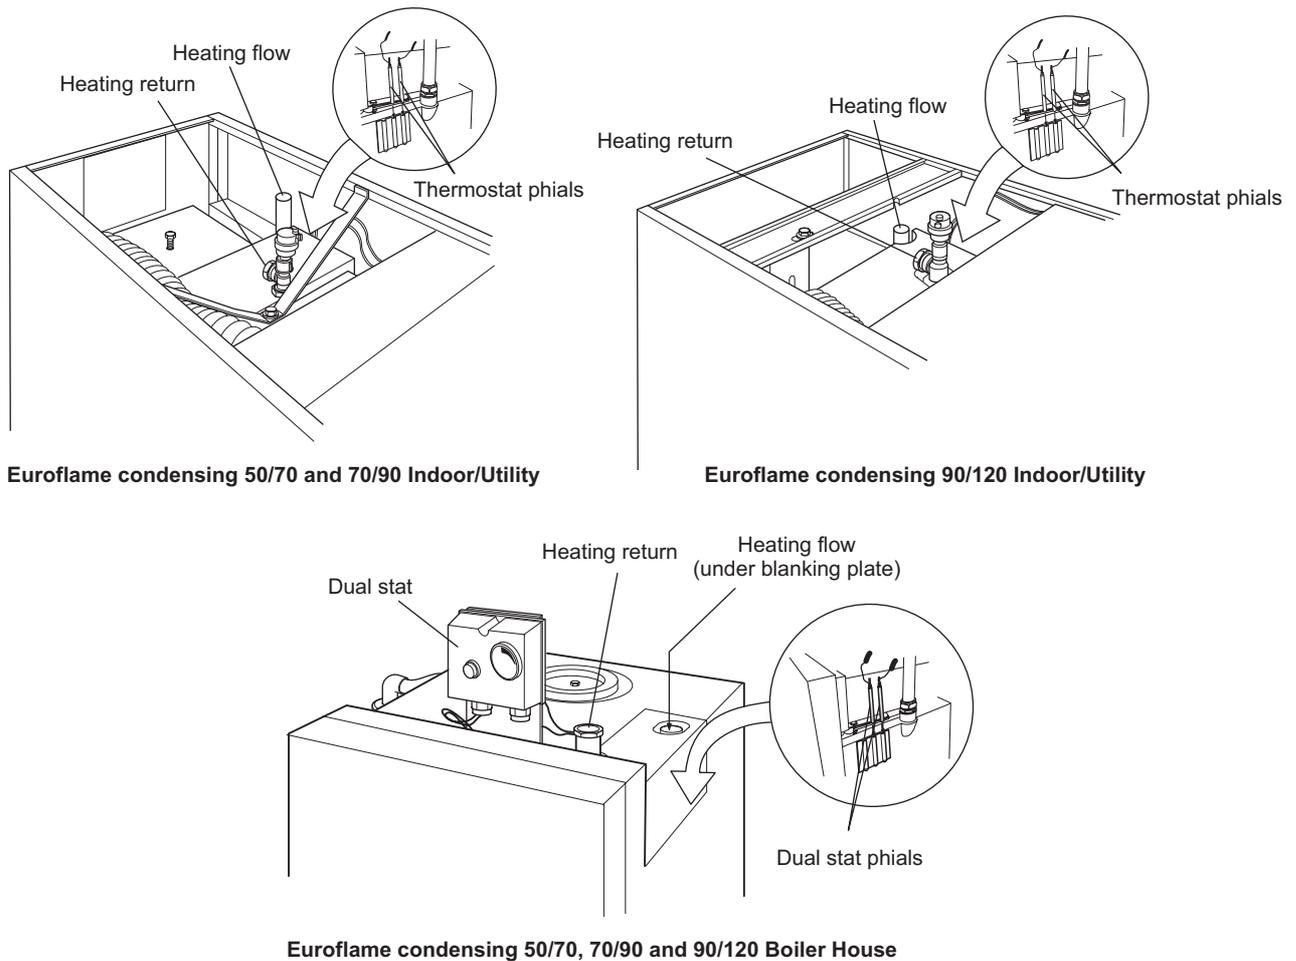

Fig. 12 - Water connections and thermostat phial positions
4.11 Water connections - all models See Fig. 12
- 3 The expansion vessel can be fitted in either the return or flow pipework in any of the recommended positions as shown in Fig. 12. To reduce the operating temperature of the expansion vessel diaphragm, position it below the pipe to which it is connected. The expansion vessel may be positioned away from the system, providing the connecting pipe is not less than 13 mm diameter.